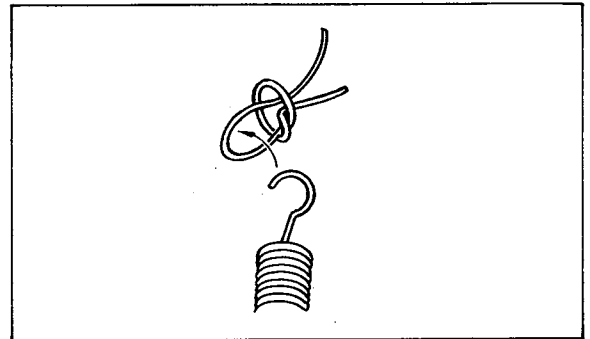

Fig. 2-5. Tying square knot to the coil spring
3. Tie the end of the cord to a spring as shown in Fig. 2-5.